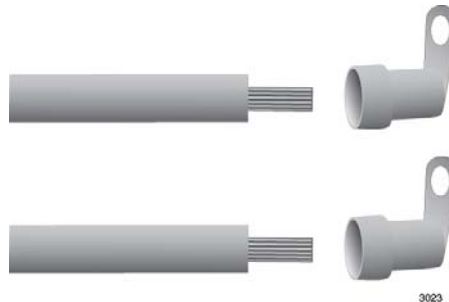

Figure 133. Attaching the Power Wires to the Right Angle Terminals
3. Insert the power wires into the right angle terminals included with the power supply and use a crimping tool to secure the wires to the terminals. See Figure 133,